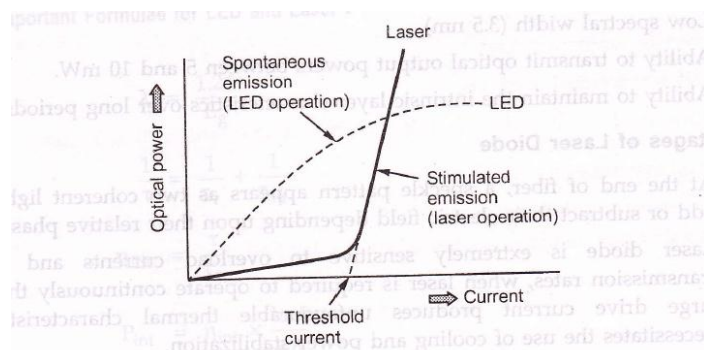

Fig. 3.1.13 Optical characteristics of an LED and laser compared
- The output of laser diode depends on the drive current passing through it. At low drive current, the laser operates as an inefficient LED, When drive current crosses threshold value, lasing action begins. Fig. 3.1.13 illustrates graph comparing optical powers of LED operation (due to spontaneous emission) and laser operation (due to stimulated emission).